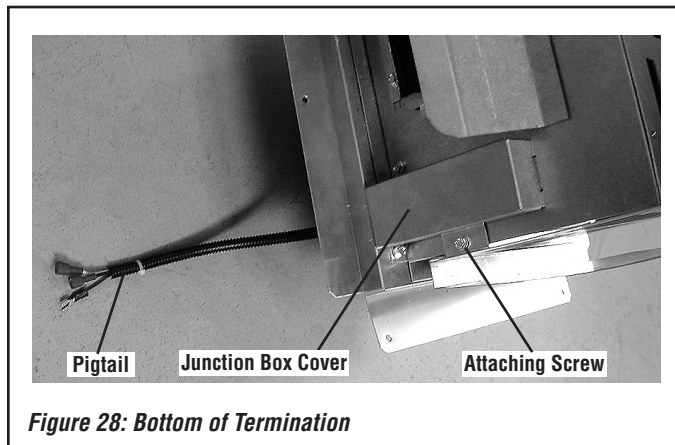

Figure 28: Bottom of Termination
- Locate a locally procured electrical junction box within reach of the termination wiring pigtail (*refer to Figure 28 on Page 21*) and route the pigtail to the junction box as the termination is installed.
- Remove the junction box cover from the termination by removing the attaching screw (refer to Figure 28).
- Loosen the strain relief on the termination shown in Figure 28. Pull the pigtail in and shorten it to fit within the junction box cover.